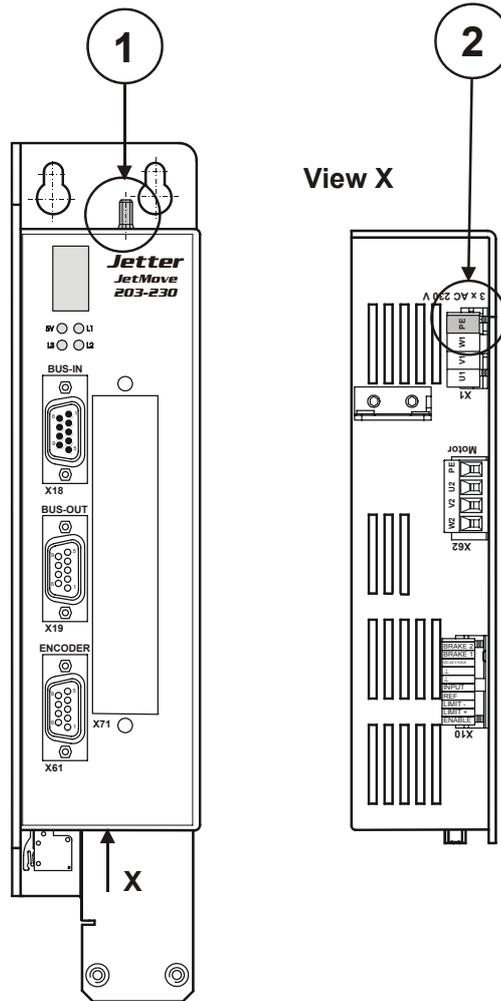

Fig.1: Double earthing
- Connect the protective earth (PE) conductor to terminal X1. see Fig. 1 on page 14